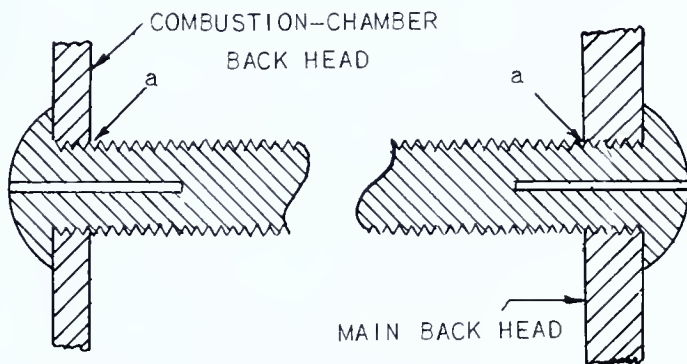
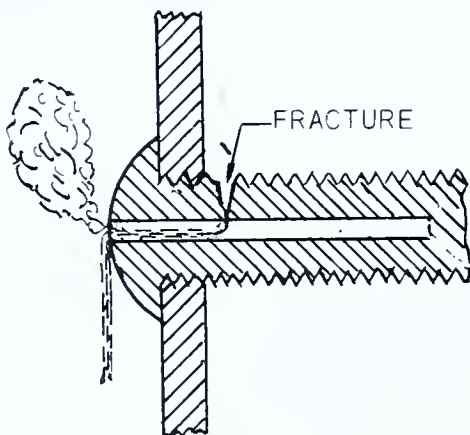
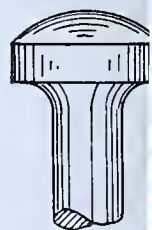

FIG. 404 — *Commonly Used Type of Stay Bolt*
FIG. 405 — *Stay Bolt Fracture*
FIG. 408 — *Special Bobbing Tool*
The combustion-chamber back head (Fig. 418) and the main back head inclose a water space. The generated steam pressure in the boiler has a tendency to cause these two heads to curve away from a perpendicular position. Continual variation in the boiler pressure with the accompanying in-and-out movement (flexing) of the head plates will cause fractures to develop and the fractures result in leaks. To prevent this flexing of the head plates, stay bolts are installed as shown in Fig. 404.
Several types of stay bolts are used to serve various purposes. The type commonly used is shown in Fig. 404. Note the small hole in each end of the stay bolt. The purpose of the hole is explained as follows: Fractures develop in stay bolts, usually just inside of the plates at *a* in Fig. 404. When the fracture reaches a sufficient depth, the boiler pressure causes water and steam to run out of the small hole in the stay bolt as shown in Fig. 405.
and have the appearance of the one shown in Fig. 404. When the bobbing operation has been completed, the telltale hole is opened with a small drill in a pneumatic drilling machine. The bobbing tool shown in Fig. 408 is made from a wornout riveting tool. It is made short enough (for the thumb and fingers to grasp it) to prevent the loss of the tool while it is in use, and hold it firmly in the desired position during the bobbing operation.
9. Finish off the job with a special bobbing tool (Fig. 408) in the riveting hammer.